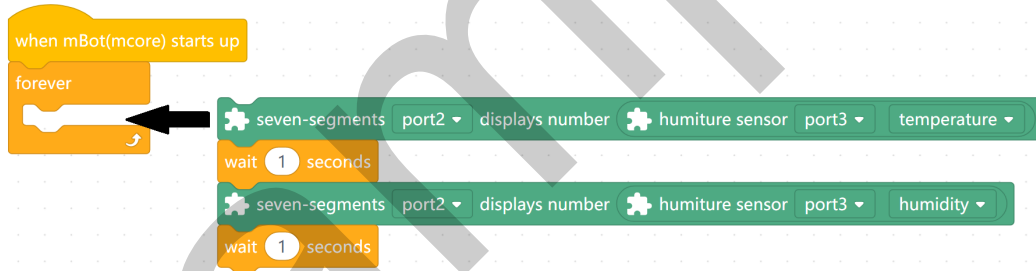

FIGURE 9 Blocks can be inserted into slots in the "forever" block
- Drag the set of "seven segments" and "wait" blocks into the "forever" block (see Figure 9).